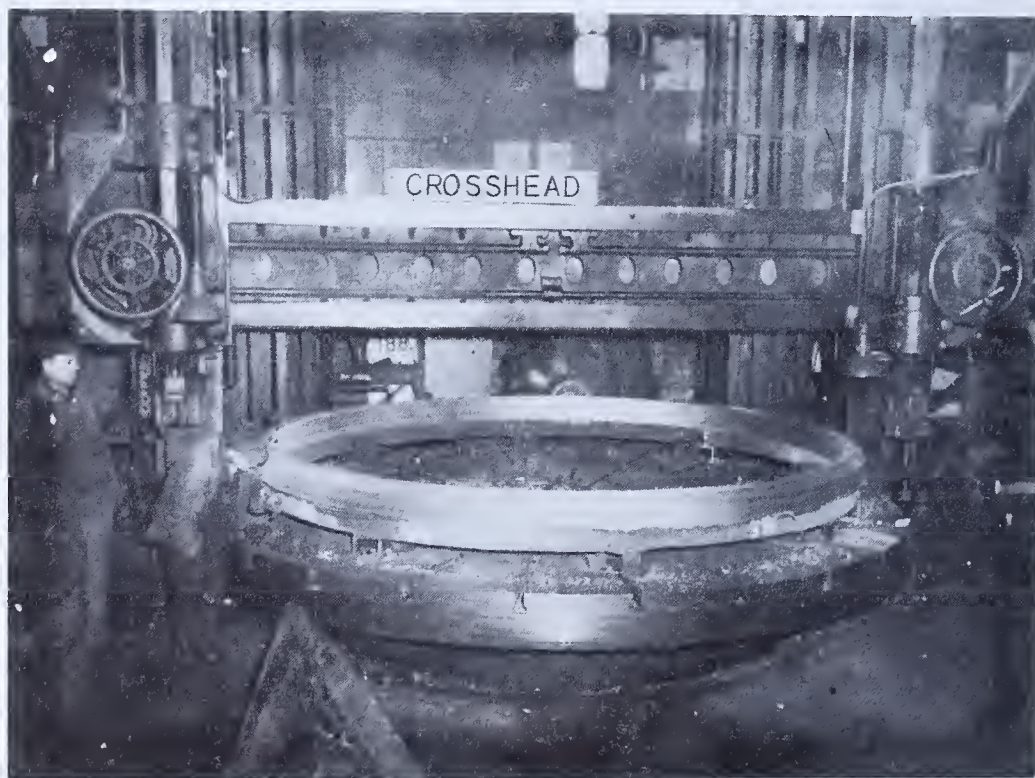
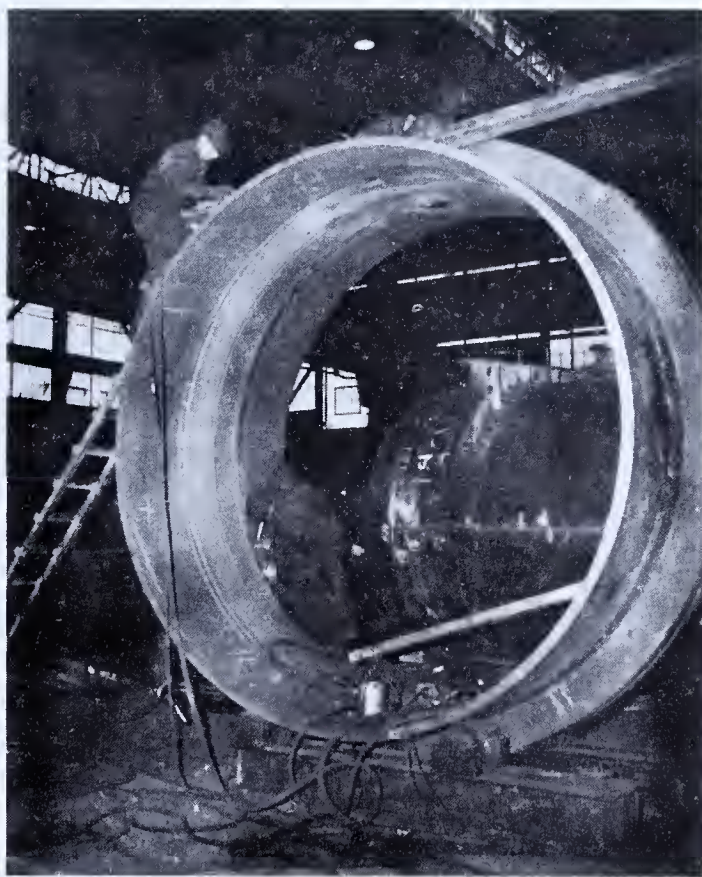

FIG. 210 — *Machining on the Vertical Boring Mill*
FIG. 211 — *Preparing Seams for X-Raying*
The vertical boring mill shown in Fig. 210 is a 14'-0" machine and it has two heads. The heads can be adjusted in and out on the horizontal cross-head and they
can be adjusted to cut simultaneously and at different diameters. Hand-adjusting wheels are shown in Fig. 210 at the right and left of the crosshead.
The ring flange shown on the table in Fig. 210 is one of the many jobs that can be turned or bored. The ring flange is machined to size and then it is welded to a cylindrical shell. An example of a ring flange which has been welded to a shell is shown in Fig. 211. Ring flanges are forged steel rings, made in halves which are welded together to form a continuous ring.
### REQUIRED FOR MACHINING THE JOB SHOWN IN FIG. 210
1. Have the craneman place the ring flange on the table as shown in Fig. 210, "true" the diameter, and clamp the job fast.
6. Note the orderly and clean appearance of the floor in Fig. 210. When should the work be done of keeping this location clean and orderly? Who should do this work?